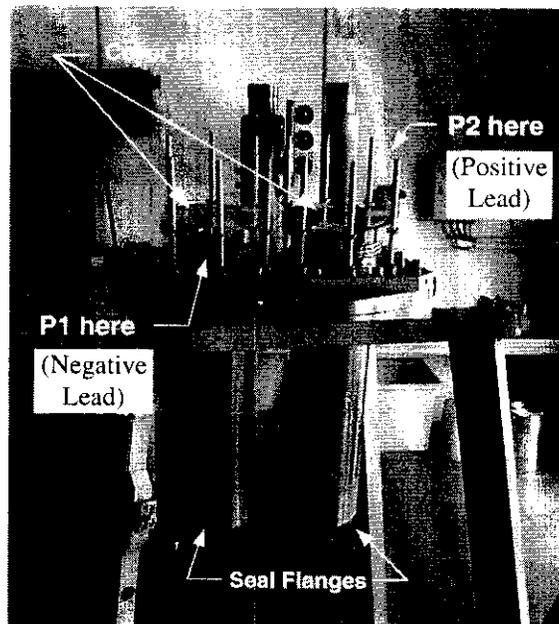

Figure 1.21b Locations of the negative and positive leads.
- 1.21 Install the lead in the chimney per Figure 1.21a until the lower sealing flange bottoms out. The flag should be toward the bayonet connections on the insert. The negative lead is installed on the left hand side, and the positive lead is installed on the right hand side as shown in Figure 1.21b.